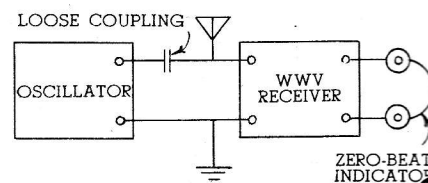

Fig. 1
**Comparison of low-frequency R.F. Oscillators:** This is the most common application of the standard frequencies and refers to the standardization of radio frequency oscillators operated at the same or a lower frequency than that of the standard signal. Such equipment includes *frequency standards* (which are generally operated at fundamental frequencies of 100, 250, 500, or 1000 kc. etc.) *signal generators*, and *test oscillators*. These devices may be loosely-coupled directly to the WWV receiver, as shown in Figure 1, through a small capacitor, or by linking the insulated output lead (from the oscillator) about the antenna post of the receiver.